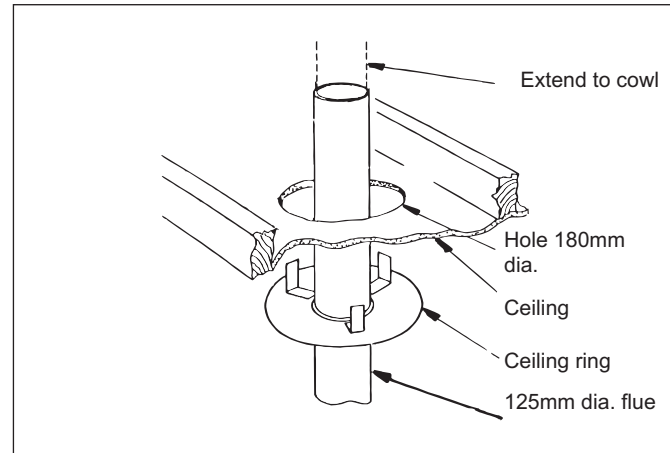
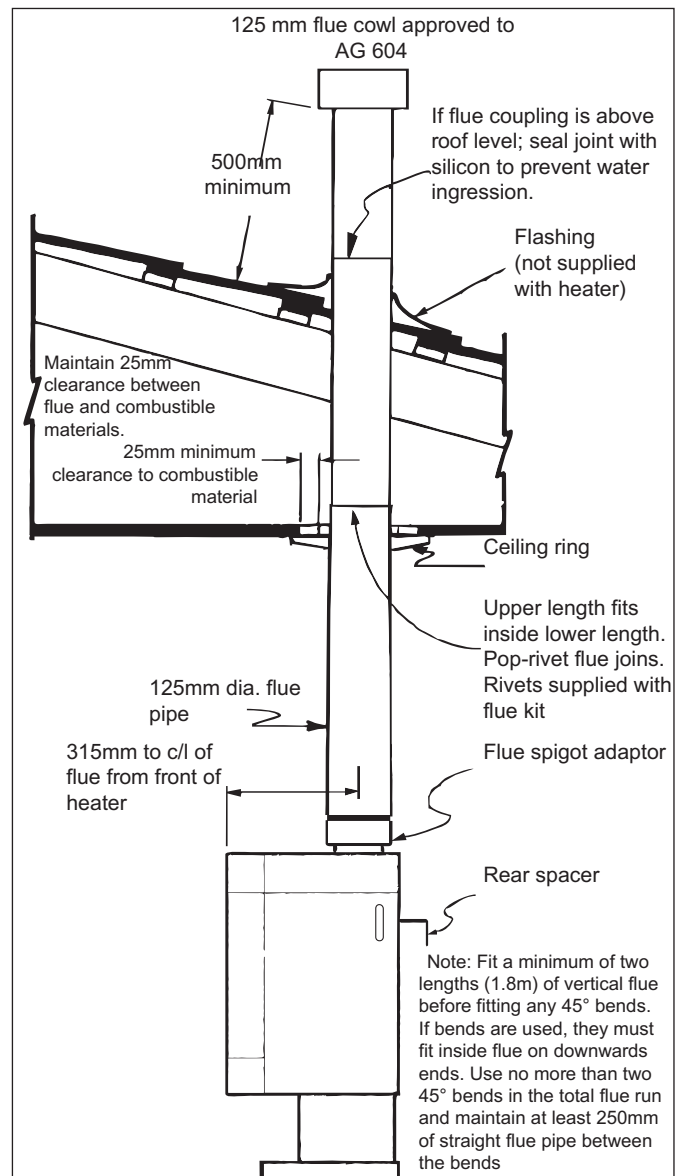

FIG 9
FIG 10
3. Carry out installation as per **FIG 9** (ceiling plate installation) and **FIG 10** (flue installation).